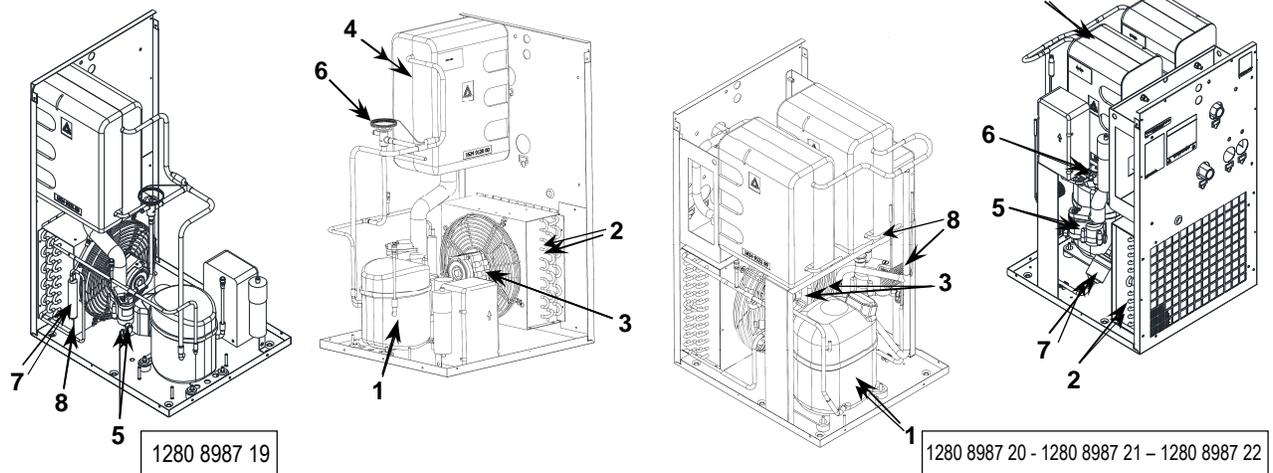

FIG. 8
- Clean the condenser fins Ref. 1 with compressed air (Fig. 8) **DO NOT USE WATER OR SOLVENTS**